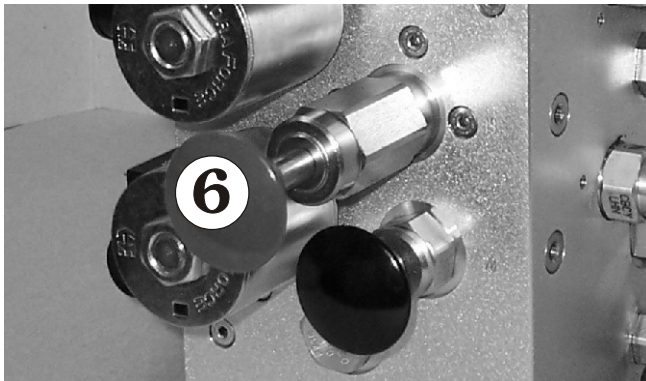

Figure 9.10
4. To release the brakes, pump the hand pump ⑥ 5 - 10 times. (see Figure 9.10). The brakes will now be released and the SR is ready to be pushed or towed.